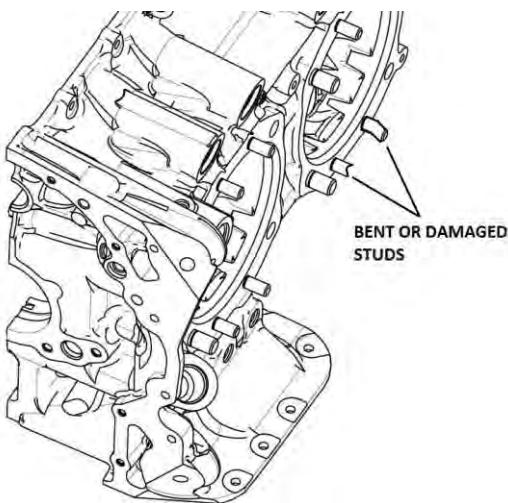

Figure A-1
2. To remove and replace a crankcase stud (Figure A-1):